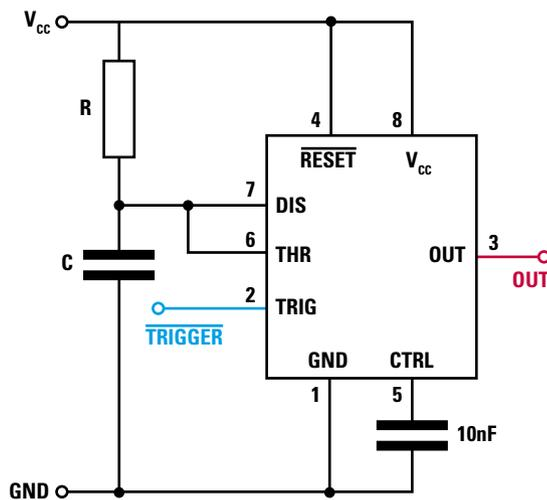
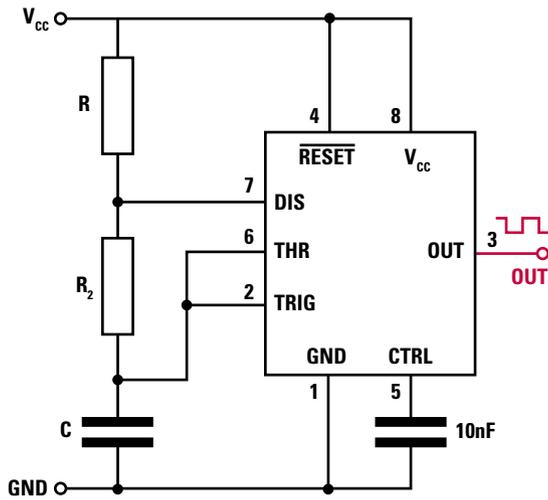

Figure 4 ♦ A 555 used in monostable mode
Figure 6 ♦
Monostable means that the circuit is stable in one state. We can force it into the other state, but it will return to the stable state as soon as it can. **Figure 4** shows the circuit. Notably, THRESH and DISCH are connected together and to VCC through a resistor (R) and to GND through a capacitor (C). When TRIG drops to low (i.e. below 1/3 VCC), the flip-flop's state changes to high. One effect of this is to turn off the discharge transistor. That allows C to charge through R. When it has charged to the point that the voltage across it is 2/3 VCC, the threshold comparator flips its output, resetting the flip-flop. That takes OUT low (back to the stable state) and turns on the discharge transistor connecting DISCH to GND, which drains the charge from C and takes the voltage at THRES to 0 (since it's connected to DISCH). The 555 is now happily back in its stable state until TRIG once more switches from high to low.
Figure 6 shows the basic circuit. There are two simple changes from **Figure 4**: